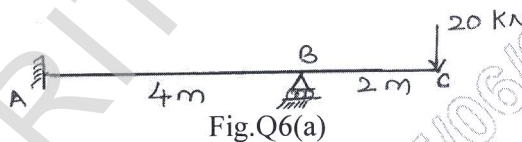

Fig.Q6(a)
- 6 a. Analyse the propped cantilever shown in Fig.Q6(a) by consistent deformation method. Draw shear force diagram. (08 Marks)
- b. Analyse the fixed beam shown in Fig.Q6(b) by consistent deformation method. Draw bending moment diagram. (12 Marks)